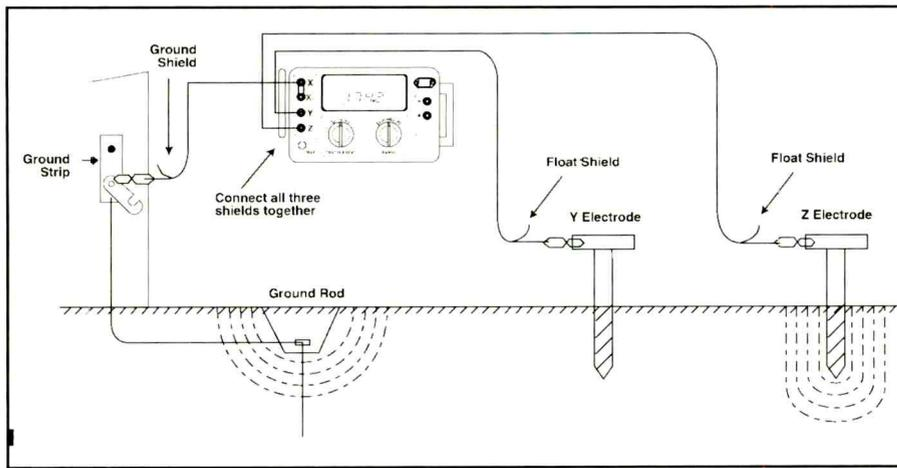

Figure 25.
C) If a satisfactory low voltage value is still not obtained, the use of shielded cables may be required. The shield acts to protect the inner conductor by capturing the voltage and draining it to ground (Figure 25).